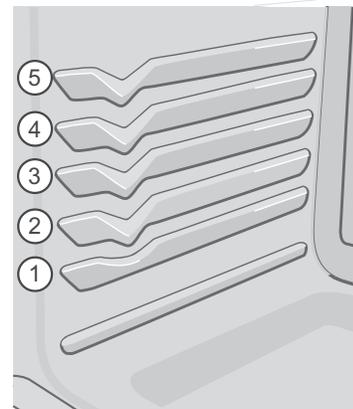

Figure 8: Rack positions
- For best results when baking cakes using two oven racks, place racks in positions 1 and 3 (See Figure 8).